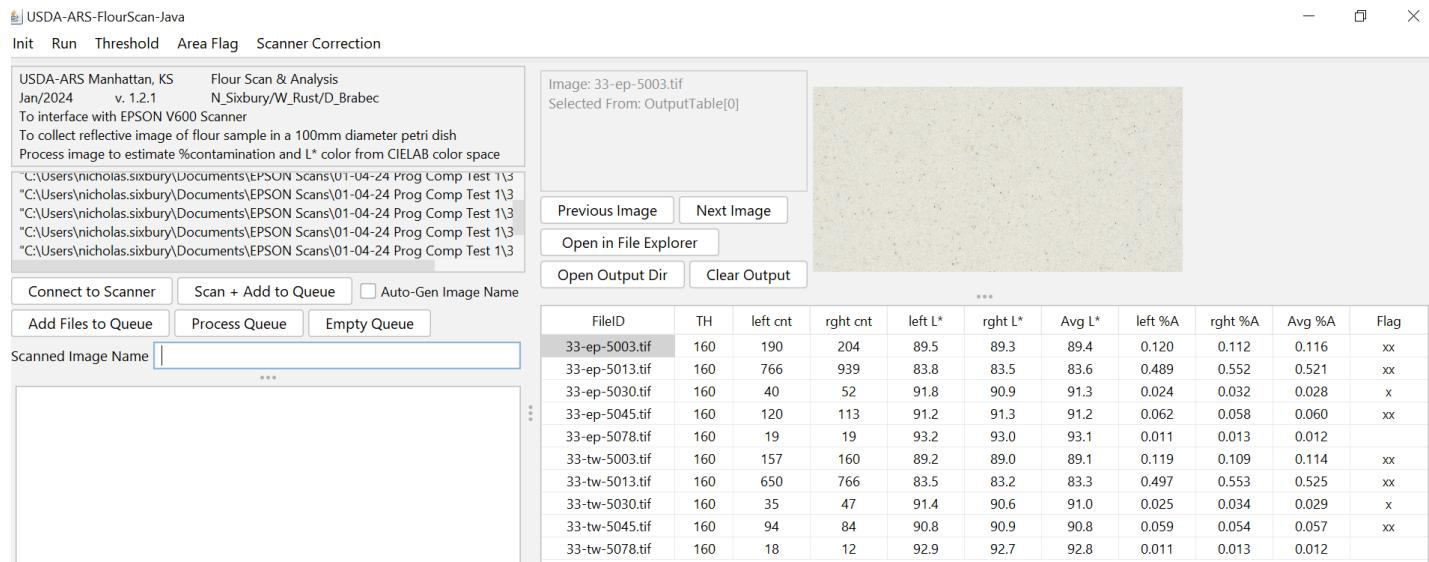

Fig 7: Flour scan software – user interface, to the right find Open Output Dir for the excel file.
- 8) After all images have finished processing, the results will be displayed in the table to the right in the software, [Fig. 7]. The image processing divides the 1"x2" image into 2 images which are 1"x1" and labeled as either Left or Right. The results are given for 3 parameters; spec count, brightness L\*, and %spec area. Also, a flag is included to mark samples that have %spec area larger the 0.025% and 0.05%.